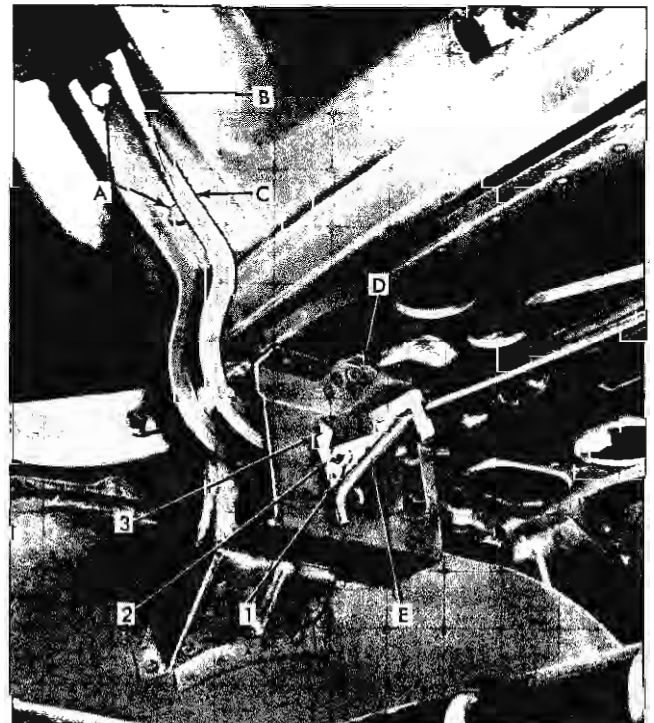

Fig. 5-4 Rear Compartment Lid Hinge and Torque Rod
4. With aid of helper, remove lid attaching bolts A (Fig. 5-4) and remove lid.
a. To raise front edge of lid at hinge area, place shim between lid inner panel and forward portion of one or both hinge straps at C Fig. 5-4.
b. To lower front edge of lid at hinge area, place shim between lid inner panel and rearward portion of one or both hinge straps at B Fig. 5-4.
4. Disengage torque rod with suitable tool from notched retainer on inboard face of opposite hinge box E (Fig. 5-4).
6. Bend up hinge pin retaining tab on inboard face of hinge box D (Fig. 5-4); remove hinge pin and then remove hinge from box.
The amount of effort required to open and close the rear compartment lid is determined by the position of the torque rod in the notches on the inboard face of the hinge boxes. If the torque rod is located in the lowest most forward notch (position No. 1), the amount of effort required to open the lid is the greatest and the amount of effort required to close the lid is the least. If the torque rod is located in the top or most rearward notch (position No. 3) the amount of effort to open the lid is the least and the amount of effort to close the lid is the greatest. See E (Fig. 5-4).